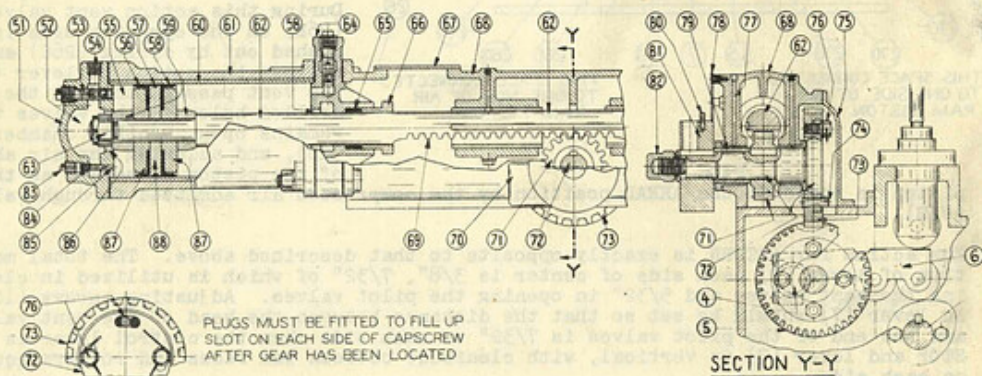

FIG. R-3
The power for rotating the latch shaft through 180° from the AHEAD to ASTERN positions or vice versa is supplied by an air ram, or double acting air piston, connected by means of a reversing rack and gearing to the latch shaft. It is located on the top of the latch box and is shown in detail on Fig. R-3.
Referring to Fig. R-3, housing (68), which is bolted to the top of the latch box, carries reversing rack (62) and pinion shaft (72) in replaceable bronze bushings. If renewed bushings must be reamed to 2.002" - 2.003" and 2.249" - 2.2505" diameter respectively after pressing in, and the oil holes must be drilled through the bushings in line with the holes in the housing. The unit is located on the latch box with the pinion shaft at the center of the engine, midway between cylinders 3 and 4. Cylinder (61) is provided with a bronze liner to prevent rusting, and is bolted together with front head (64), to the after end of housing (68). A stuffing box (65) and gland (66), accessible through cover plate (67), seal the piston rod
The travel of the piston is limited at each end by contact between followers (87) and the cylinder heads. In order to prevent shock the piston is cushioned at each end of its stroke by trapping part of the air ahead of it. Referring again to Fig. R-3 and assuming that air is being admitted to the right side of the piston from the pilot valve in the control housing, the piston will be moving toward the left. The air in front of it will be expelled through connection (54) and the pilot valve in the Control Unit, the vent valve of which will be open. As the piston approaches the end of its stroke collar (59) enters opening (86) in the head, closing it off, and traps the air in front of the piston. This trapped air must then pass through needle valve (85), which should be adjusted to produce the desired cushioning effect on the piston. Remove plug (83) to reach the needle valve for adjustment.
Check valve (53) is provided to admit air to the full face of the piston when it is to be returned to the opposite end of the cylinder. This valve is made necessary by the closing of opening (86) by collar (59), thus preventing air from chamber (52) reaching the full face of the piston until collar (59) clears the head. Valves (53) and (84) are duplicated in front head (64), but are not shown in Fig. R-3. The action of the piston at the front end of the cylinder is exactly the same as that described above. Valves (84) and (53) are not shown in their correct positions in Fig. R-3, valve (53) and connection (54) from the pilot valve actually being located on the horizontal centerline toward the engine in the back head and valve (84) 30° off the vertical. In the front head, both valves are in the top, 5/8" each side of the centerline, and the inlet connection from the pilot valve is on the horizontal centerline away from the engine.
Section YY in Fig. R-3 shows a transverse section through pinion shaft (72). This shaft, which is driven from reversing rack (62) by means of pinion (71) to which it is keyed, has a flange on its inner end to which is bolted helical gear (73). This gear meshes with a similar gear (5) on the latch shaft (4) and thus completes the connection between the air ram piston and the latch shaft. Housing (68) is located and doweled on the latch box so that these gears mesh properly, and if replaced the new housing must be carefully located, and new dowel holes drilled so that these gears are correctly meshed.
and the ASTERN aft. The pin rotates through the lower arc, and the reversing rack must therefore be moving aft (to the left in Fig. R-3) when the latch shaft is moving from ASTERN to AHEAD. The air must be admitted to the forward (or right hand in Fig. R-3) side of the piston to produce this motion, which puts the engine in AHEAD position. Therefore the ahead pilot valve in the control housing, (which is on the left or after side of the housing, as explained in paragraph 3) must be connected to the forward or front head of the ram cylinder. Conversely the astern valve is connected to the rear head. The position of the piston is aft when the engine is running AHEAD and forward when it is running ASTERN. (The above discussion holds true for both right and left hand engines.)
In Atlas engines the AHEAD and ASTERN cams are mounted side by side on the camshaft. Referring to Fig. R-3 it will be noted that latches equipped with two rollers are interposed between the cams and the valve lifter rollers. The two latch rollers are offset and lined up relative to the cams in such a manner that in the AHEAD position of the latches one set of rollers contact the AHEAD cams while at the same time the other set of rollers are free of the ASTERN cams. (Astern cam not shown in Fig. R-3.) Thus in the position shown in Fig. R-3 the AHEAD cams actuate the latches which in turn actuate the valves by means of the lifters, pushrods and rockers.